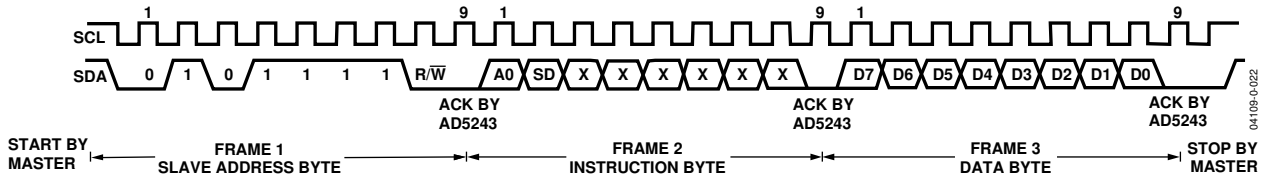
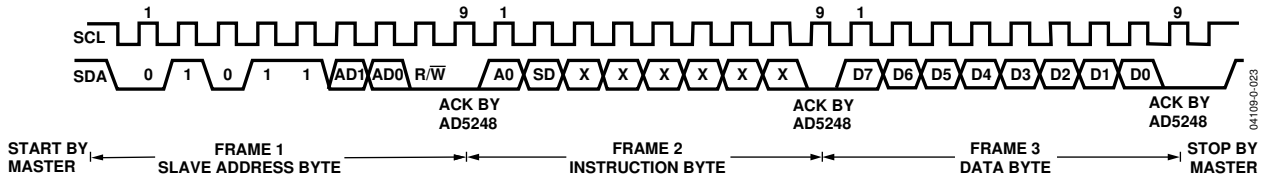
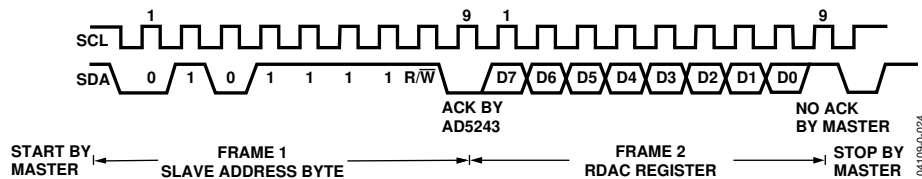
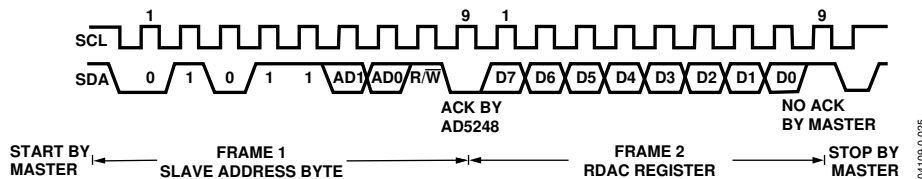

Figure 46. Writing to the RDAC Register—AD5243
Figure 47. Writing to the RDAC Register—AD5248
Figure 48. Reading Data from a Previously Selected RDAC Register in Write Mode—AD5243
Figure 49. Reading Data from a Previously Selected RDAC Register in Write Mode—AD5248
1. The master initiates data transfer by establishing a start condition, which is when a high-to-low transition on the SDA line occurs while SCL is high (see Figure 46). The following byte is the slave address byte, which consists of the slave address followed by an R/W bit (this bit determines whether data is read from or written to the slave device). The AD5243 has a fixed slave address byte, whereas the AD5248 has two configurable address bits, AD0 and AD1 (see Figure 10).
SDA line must occur during the low period of SCL and remain stable during the high period of SCL (see Figure 46 and Figure 47).
3. In the read mode, the data byte follows immediately after the acknowledgment of the slave address byte. Data is transmitted over the serial bus in sequences of nine clock pulses (a slight difference with the write mode, where there are eight data bits followed by an acknowledge bit). Similarly, the transitions on the SDA line must occur during the low period of SCL and remain stable during the high period of SCL (see Figure 48 and Figure 49).
Note that the channel of interest is the one that is previously selected in write mode. If users need to read the RDAC values of both channels, they need to program the first channel in write mode and then change to read mode to read the first channel value. After that, the user must return the device to write mode with the second channel selected and read the second channel value in read mode. It is not necessary for users to issue the Frame 3 data byte in write mode for subsequent readback operation. Users should refer to Figure 48 and Figure 49 for the programming format.
4. After all data bits have been read or written, a stop condition is established by the master. A stop condition is defined as a low-to-high transition on the SDA line while SCL is high. In write mode, the master pulls the SDA line high during the 10th clock pulse to establish a stop condition (see Figure 46 and Figure 47). In read mode, the master issues a no acknowledge for the ninth clock pulse (that is, the SDA line remains high). The master then brings the SDA line low before the 10th clock pulse, which goes high to establish a stop condition (see Figure 48 and Figure 49).